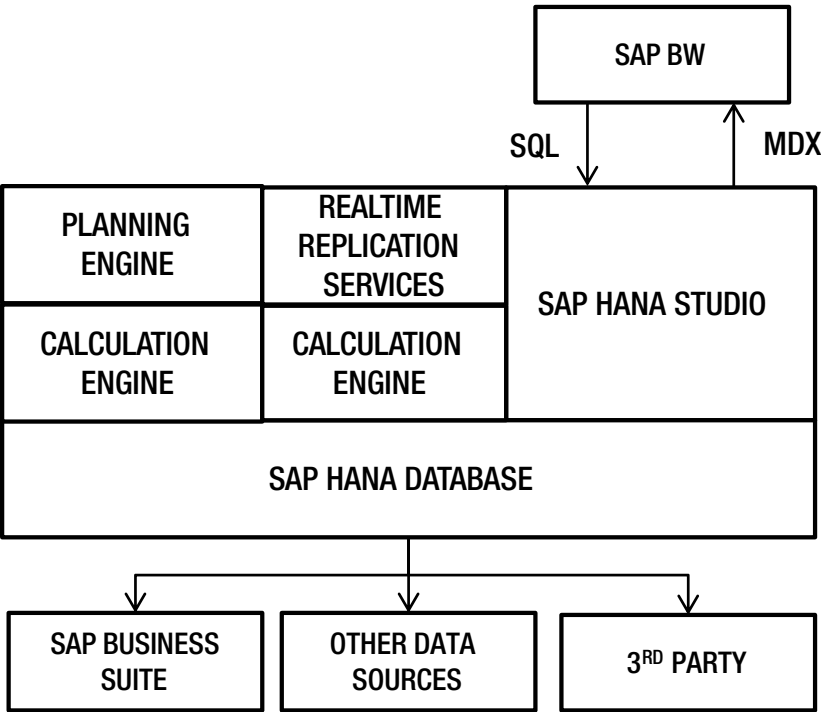

Figure 20-9. SAP BW powered by HANA
- You can perform predictive analytics on BW using the HANA analysis process in SAP BW 7.4, as shown in Figure 20-9.